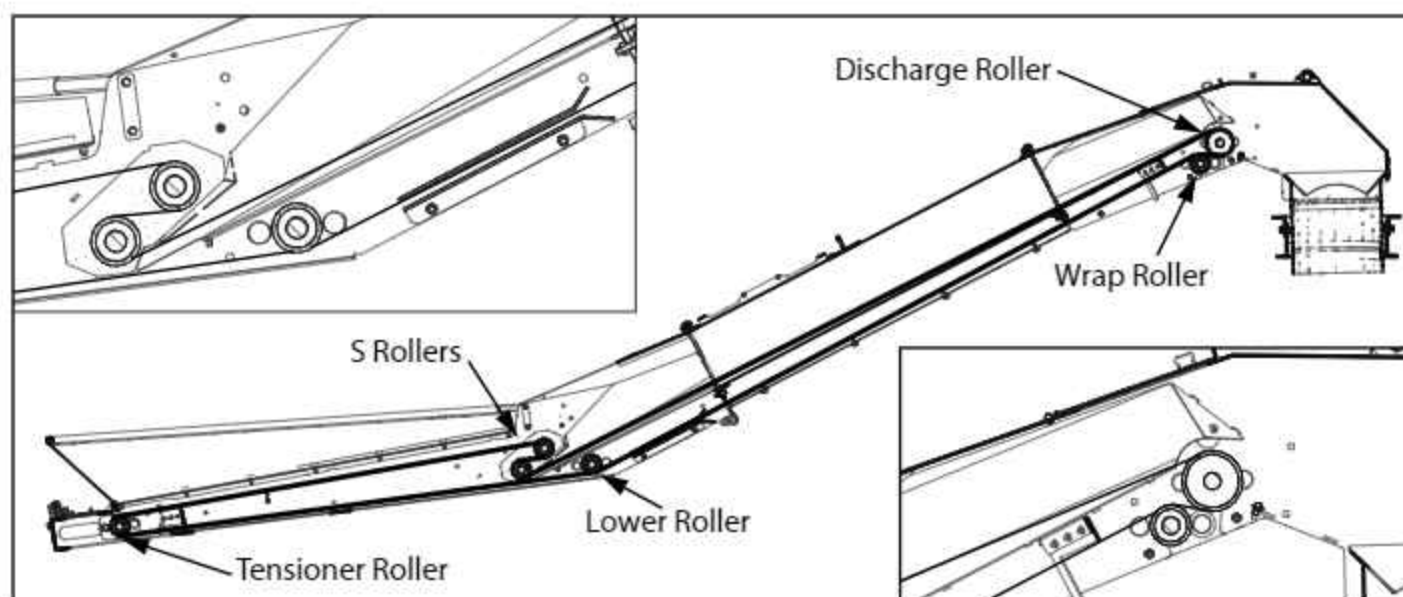

FIG. 3-75. Belt Routing
5. Pull the belt through the underside of the intake, around the roller, under **BOTH** intake flashing strips and thread it around the two 'S' rollers. Take your time doing this as it can be difficult. See Fig.3-75.
9. Wrap the belt around the discharge roller, over top of the Wrap Roller and push it through the lower section of the discharge and down the underside of the tube. See Fig 3-75.